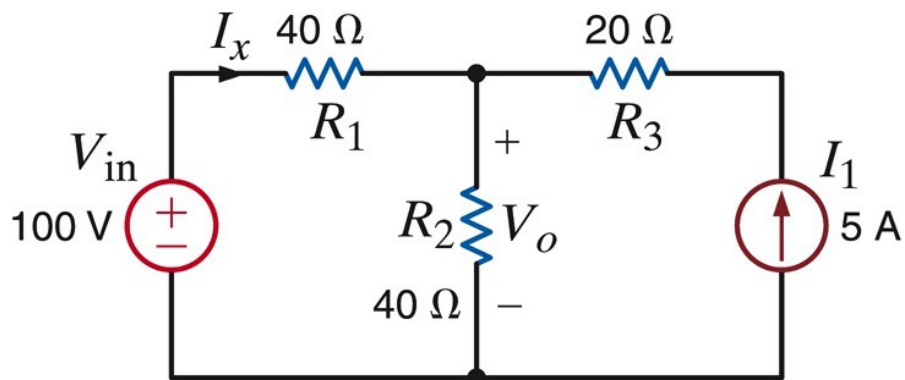

Figure 29: Circuit for Exercise 3
3. Use the dc sweep feature of MultiSim to plot  $V_o$  as the voltage  $V_{in}$  is varied between 50 V and 150 V in steps of 10 V in the circuit of Fig. 29. Include the plot in your report. Set  $I_1 = 5$  A. Now set  $V_{in} = 100$  V. Use the dc Sweep feature to plot  $I_x$  as the current  $I_1$  is varied from -5 A to 5 A in steps of 1 A. Include the plot in your report. Include a screenshot of your MultiSim schematic.